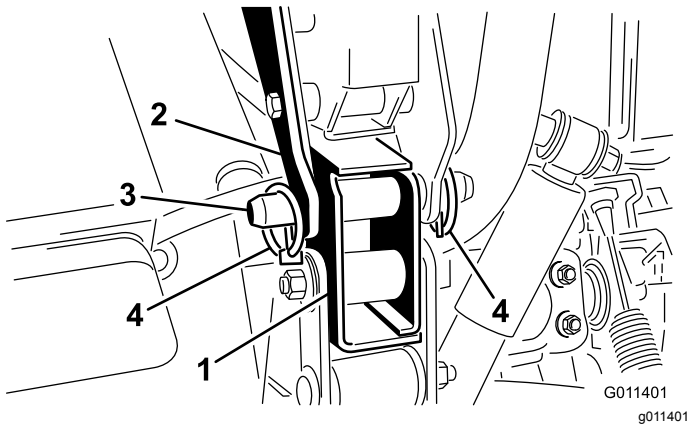

Figure 8
- 6. Secure each rear mounting bracket to the vehicle frame with a clevis pin and 2 lynch pins (Figure 8).